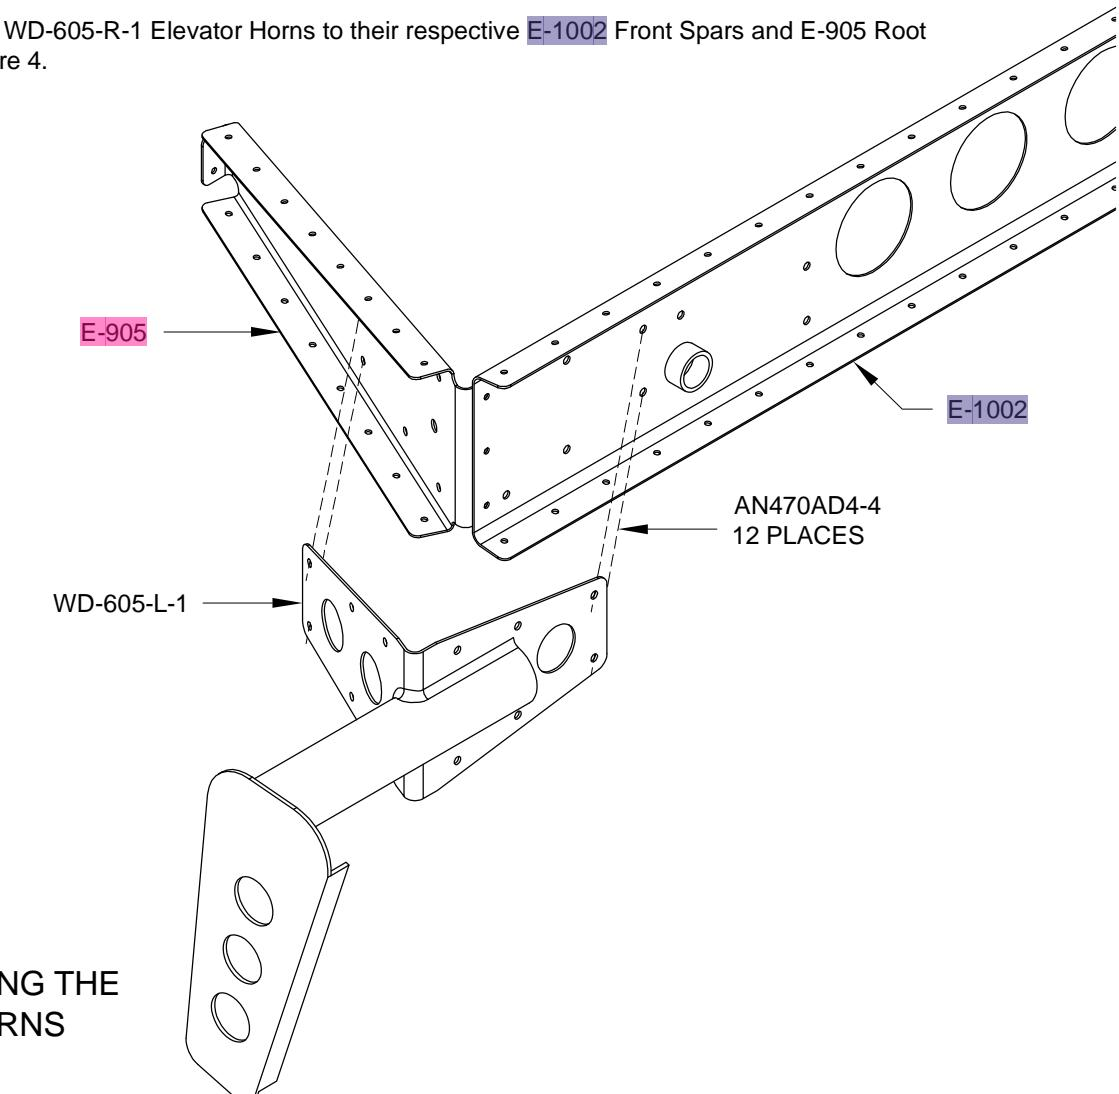

FIGURE 4: RIVETING THE ELEVATOR HORNS
Step 7: Rivet the WD-605-L-1 and WD-605-R-1 Elevator Horns to their respective E-1002 Front Spars and E-905 Root Ribs using the rivets shown in Figure 4.